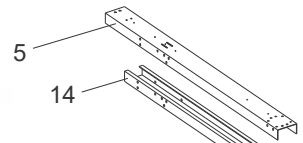

Fig. 11
A) Start by laying out the under box channels so that the open sides of each under box channel is facing up. This part is 45-9/16" in length. Then slide the strap end channel over the top of the under box channels so that they form a tube. The strap end channel 52-3/8". Be sure that the holes in both channels are aligned, but do not bolt them together yet. (Fig.11)